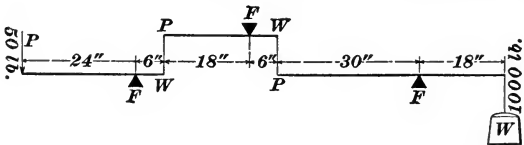

FIG. 8.
Fig. 8 shows a compound lever. It will be seen that when a force is applied to the first lever at  $P$  it will be communicated to the second lever at  $P$ , from this to the third lever at  $P$ , and thus raise the weight  $W$ .
**EXAMPLE.**—If, in Fig. 8,  $PF = 24$  inches, 18 inches, and 30 inches, respectively, and  $WF = 6$  inches, 6 inches, and 18 inches, respectively, how great a force at  $P$  will it require to raise 1,000 pounds at  $W$ ? What is the ratio between  $W$  and  $P$ ?
2. If, in Fig. 8,  $PF = 10$  inches, 12 inches, 14 inches, and 16 inches, respectively, and  $WF = 2$  inches, 3 inches, 4 inches, and 5 inches, respectively, (a) how great a weight can a force of 20 pounds raise? (b) What is the ratio between  $W$  and  $P$ ? (c) If  $P$  moves 4 inches, how far will  $W$  move?